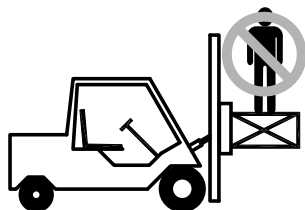

Figure 1
- Never stand on top of material being raised, lowered, or transported. (Figure 1)